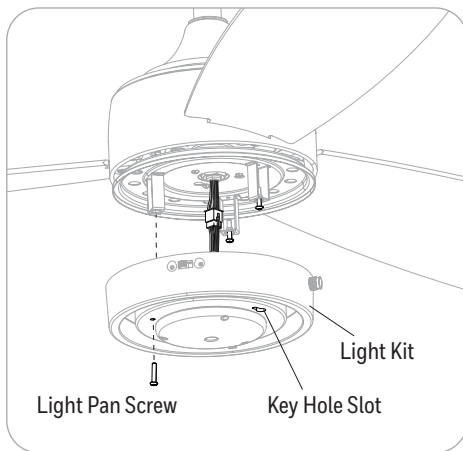

Figure 5.7
7. Place the keyholes of the light kit over the light pan screws and turn clockwise. Secure the light kit with the remaining previously removed light pan screw. Tighten all three light pan screws (Figure 5.7).